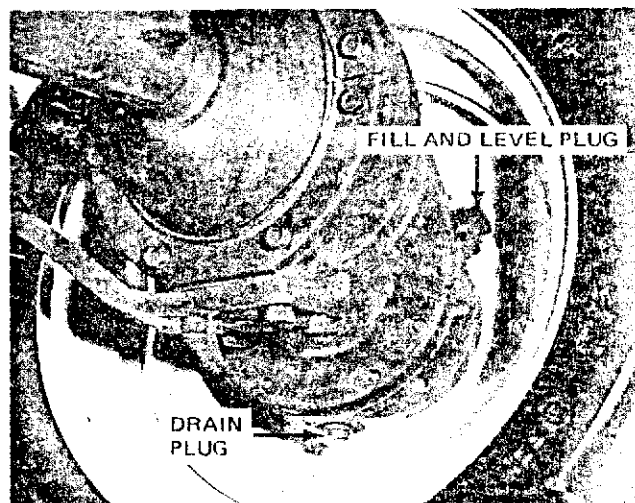

Figure 59 — Final Reduction Gear Case Fill and Drain Plugs
**Checking Oil Level:** Check the oil level in each final reduction gear case after every 50 hours of operation by removing the fill and level plug, Figure 59, on each gear case. The oil should be level with the bottom of the plug opening.
**Changing Oil:** Drain each final reduction gear case after every 300 hours of operation by removing the drain plug, Figure 59, on each gear case. Replenish with a high-quality, extreme pressure gear lubricant with an anti-foam additive. Refer to the following chart for recommended viscosity grades.